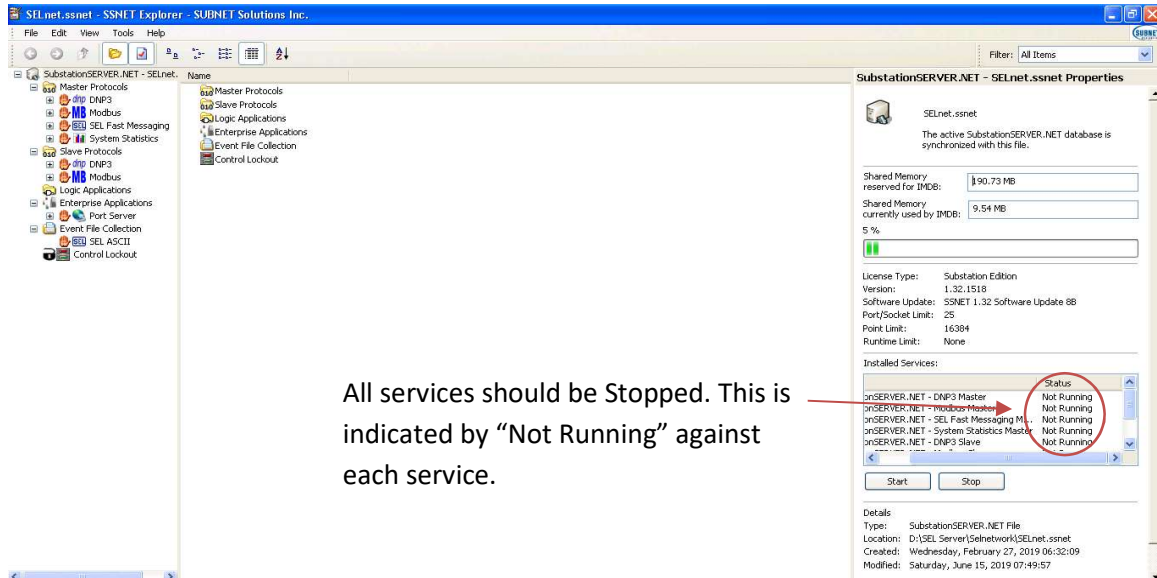
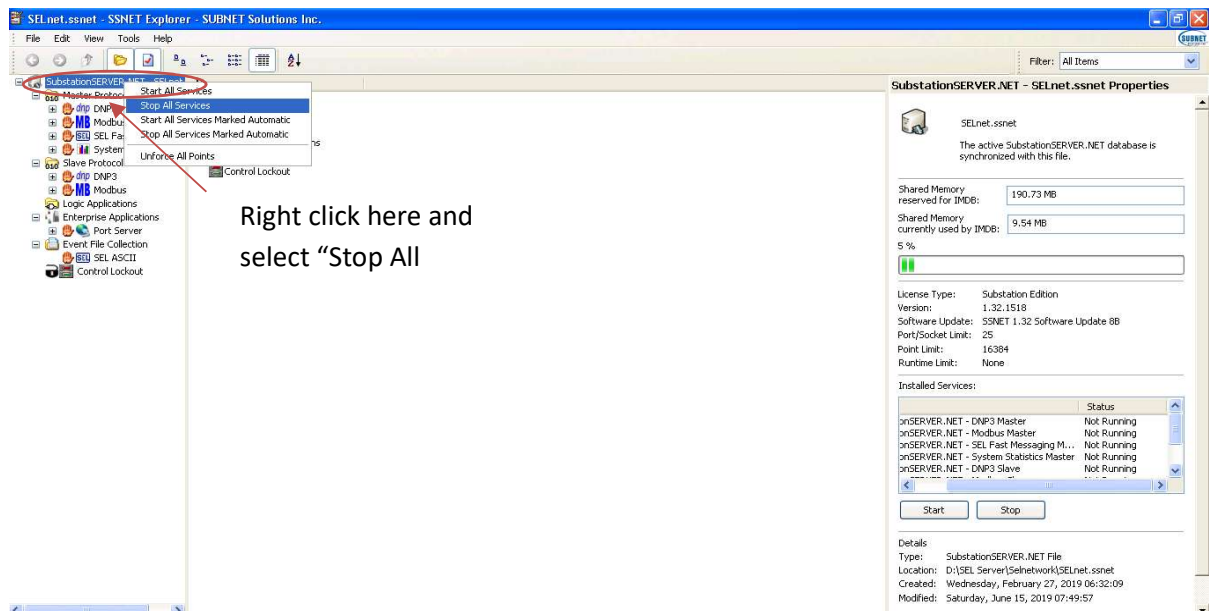

Figure 4.9 Main screen when SSNET Explorer is launched. Status of various is indicated as shown.
Figure 4.10 Stopping all services.
- 2) Make sure that all services are stopped. This can be checked on the right-side pane as shown in figure 4.9. If services are running then these have to be stopped. This can be done by right clicking on SubstationSERVER.NET and selecting Stop All Services as shown in figure 4.10. This step is important otherwise the software does not allow configuration of new port.